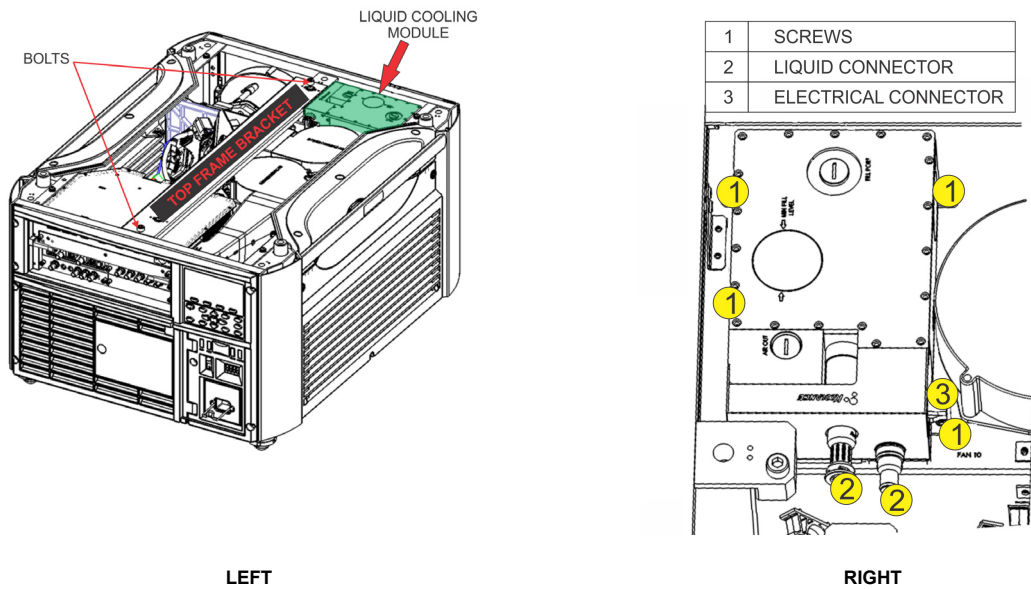

FIGURE 5-12
1. Using a 6mm hex driver or Allen key, remove the 2 bolts securing the top frame bracket. Refer to Figure 5-12 (LEFT).
4. Using a 3mm hex driver or Allen key, remove the 4 screws securing the liquid coolant module to the projector. Refer to Figure 5-12 (RIGHT).